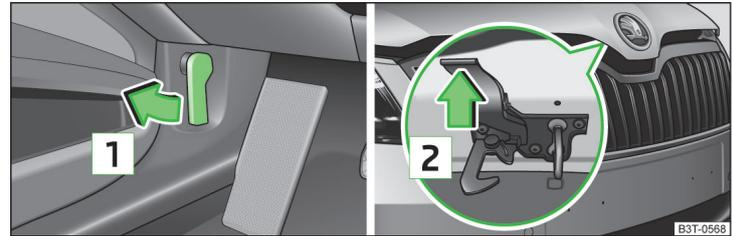

Fig. 163 Bonnet release lever/release lever
- Pull the release lever under the dash panel in the direction of the arrow **1** » Fig. 163.
Never open the bonnet by the locking lever » Fig. 163.